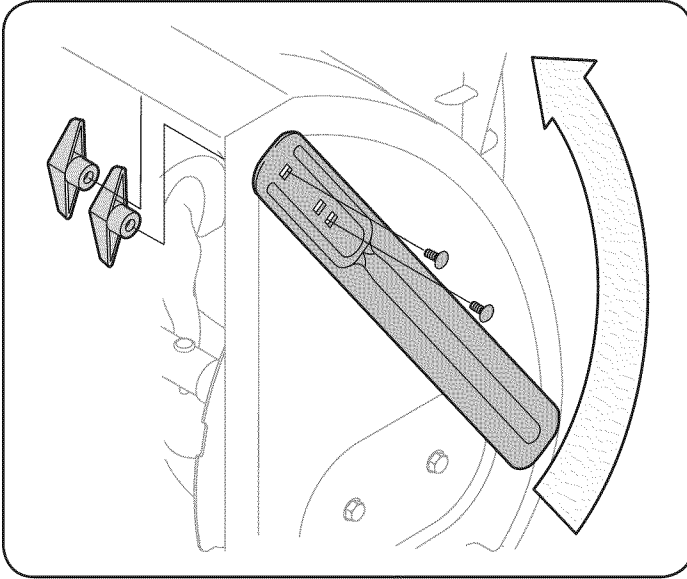

Figure 9
1. Remove the four wing knobs (two on each side) and carriage bolts. Place drift cutter in upright position and re-secure. See Fig. 9.